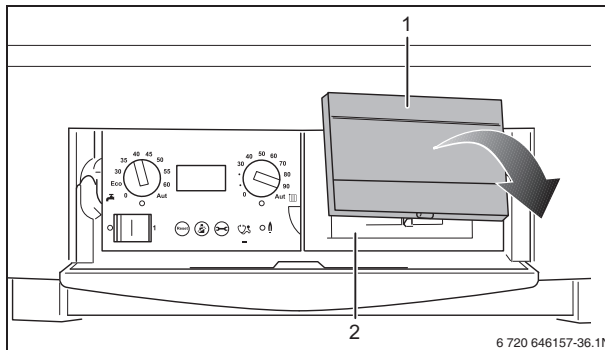

Fig. 36 Remove the cover, install the room controller.
- Remove the cover (fig. 36, [1]).
- Install the RC35 in the slot (fig. 36, [2]).